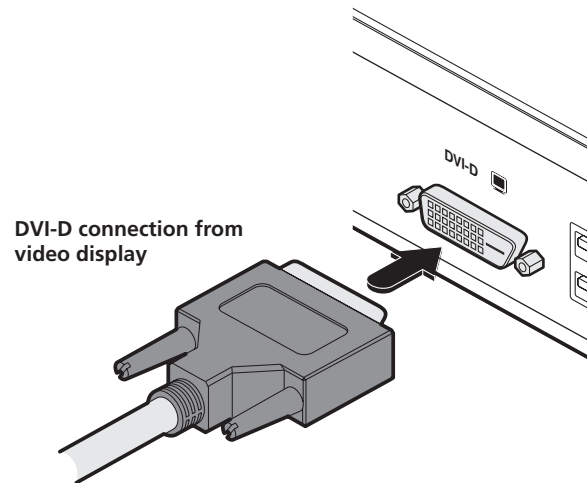

Figure 3-16. Connect the digital video link cable to the DVI-D socket.
- 1 Connect the lead from the video display to the DVI-D socket on the rear panel of the ServSwitch Agility remote unit. See Figure 3-16.